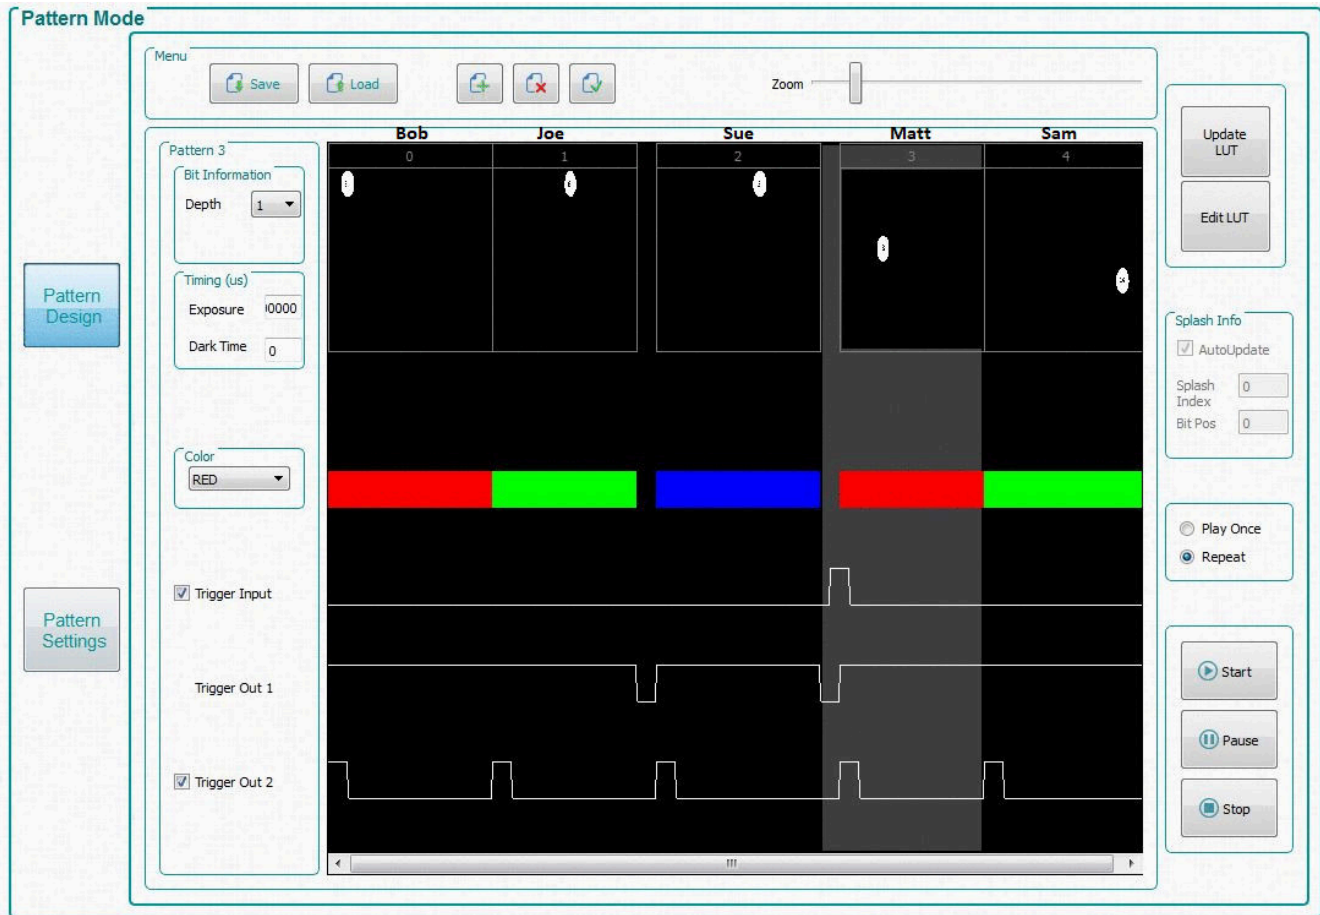
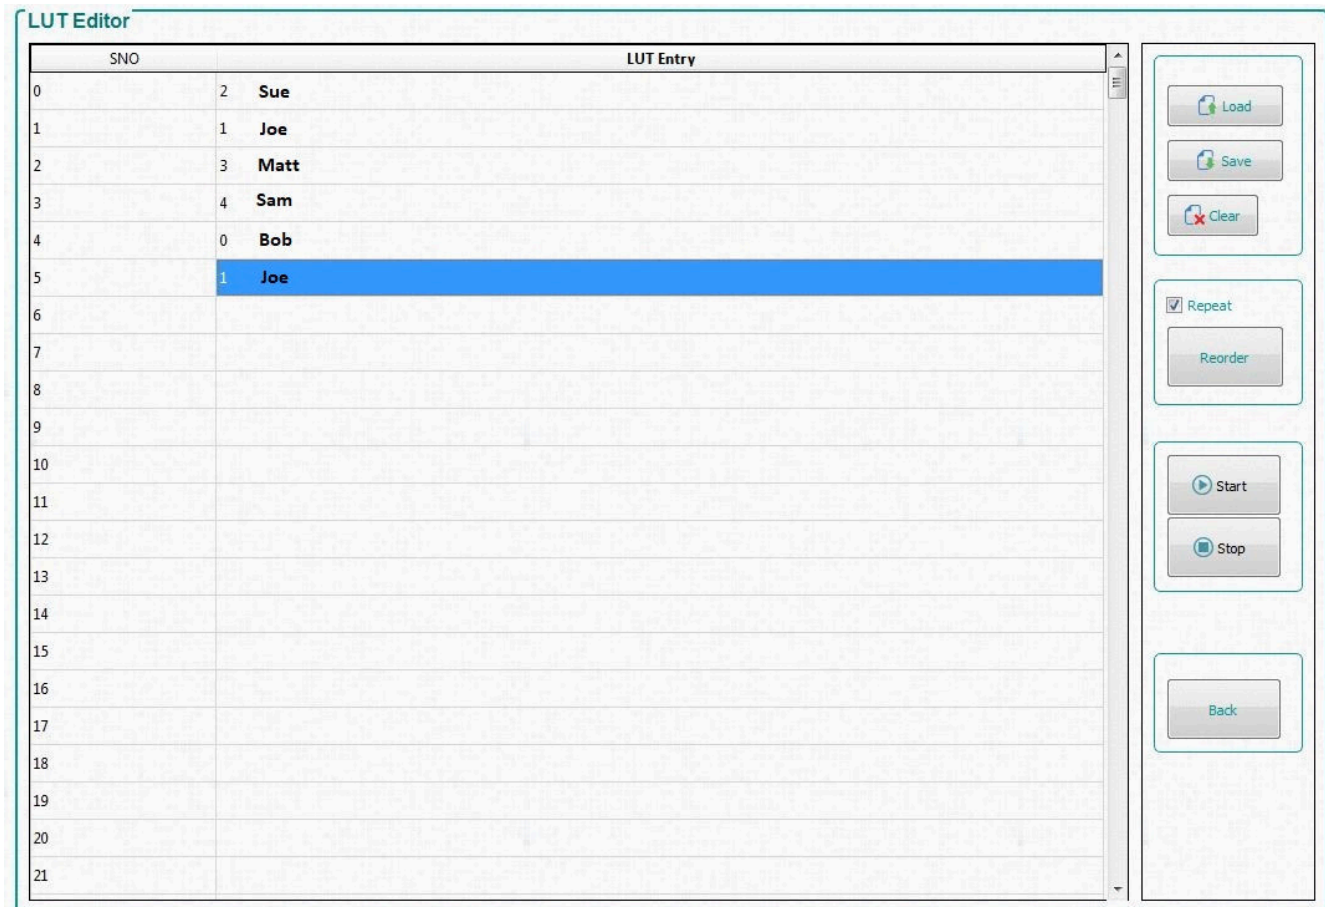
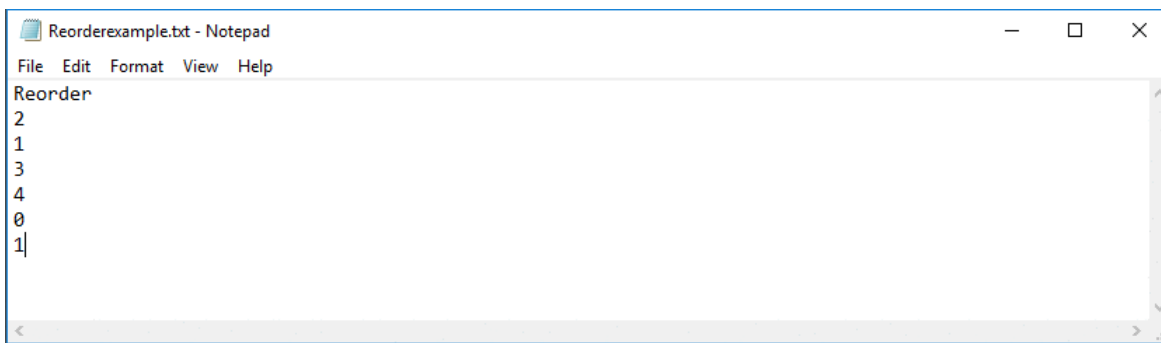

Figure 4-11. Pattern Design Example
Figure 4-12. LUT Editor Panel
Figure 4-13. Reorder Example
The names Bob, Joe, Sue, Matt, and Sam in Figure 4-11 and Figure 4-12 do not actually appear in the GUI but are for explanation purposes used in Figure 4-13. In the GUI only numbers are used.
The *LUT Editor* panel is shown in Figure 4-12 where the column labeled *SNO* (for example, *Sequence Number*) represents the pattern display slot numbers according to the order set (after clicking *Update LUT*) in the *Pattern Design* tab as shown in Figure 4-11. The user can then reorder those patterns by either manually entering the pattern number of the choice into a row in the *LUT entry* column or loading a text file beginning with the word *Reorder* followed by the desired numerical pattern slots as shown in Figure 4-13.
1. By following the steps similar to Section 4.6.2, load five patterns in *Pattern On-The-Fly-Mode* as shown in Figure 4-11.
7. Click the *Edit LUT* button to open the *LUT Editor* panel as shown in Figure 4-12. This panel initially opens with an empty "LUT Entry" column.
8. To reorder the patterns, enter a 2 in *LUT Entry* row 1, and subsequently a 1, 3, 4, 0, and 1 as shown in Figure 4-12.
13. Browse to wherever the text file was saved, and open the file in a text editor program as shown in Figure 4-13.
When using the GUI interface, each pattern carries several items of information corresponding to the slot that was inserted in the original LUT order. Therefore, when reordering a pattern to a different slot in the LUT, the LUT retains the original assigned bit information, timing (exposure and dark time), LED color, and trigger information and not the information that is located in the reassigned slot in the LUT. For example, if pattern 3 contains a trigger input to begin the user's execution in Figure 4-11 and is reordered to slot 2 as shown in Figure 4-12, then the trigger input is now located at slot 3 in the LUT rather than slot 0.
An important note is to understand the *Edit LUT* feature by giving names to the patterns, as shown above the patterns in Figure 4-11, and treating them as the batting order in a baseball game. This way, to picture the distinction between the slot order numbers is easier in the *SNO* column (the new batting order) and the patterns that are inserted into the *LUT Entry* column (the batters). For example, Bob retains his batting statistics independent of his batting position (for example, bit information, timing, color, trigger), so if he originally bats first (slot 0 in Figure 4-11) but is moved to fifth in the new batting order (reorder LUT entry 4 in Figure 4-12) he retains all of his properties. The only difference is that now he does not bat (for example, is not displayed) until after the four batters (patterns) preceding him (Sue, Joe, Matt, and Sam). Notice also that in our example Joe bats twice in the new batting order (SNO 2 and 5). There is only one Joe, who bats twice in the new batting order. In the same way, a pattern in the original pattern list can be displayed in many positions in the reordered display LUT, without adding or removing any patterns in DLPC900 memory. Therefore, in terms of the system memory, the memory is only changed when using the *Update LUT* feature but never when using the *Edit LUT* (Reorder) feature in the Figure 4-11.